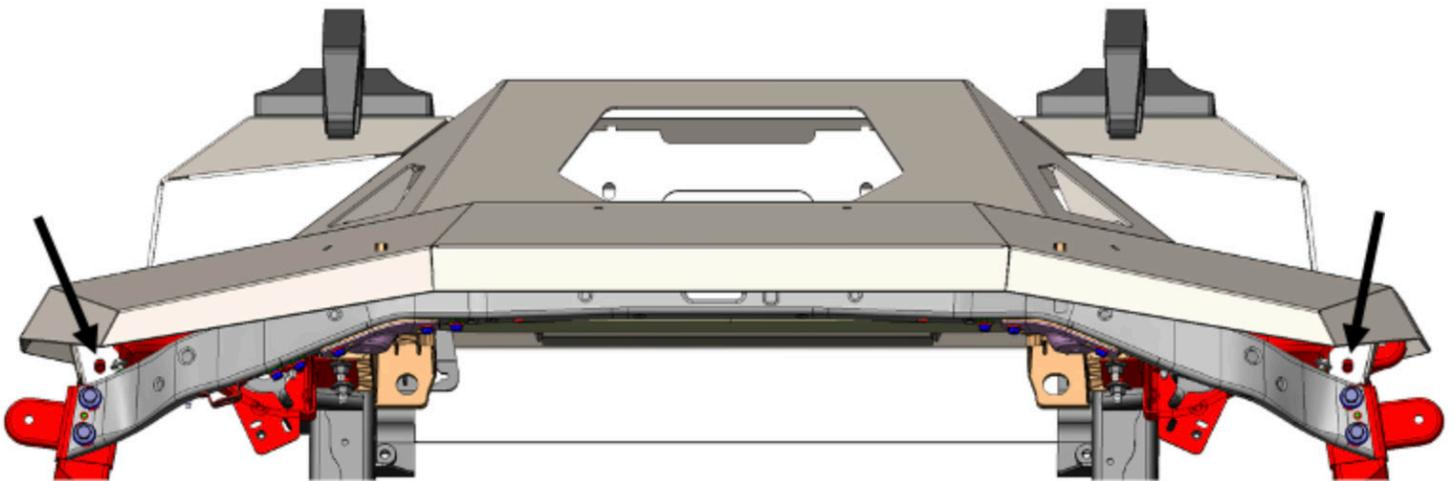

Figure 10
9. Use two (2) OEM 10mm bolts front the OE fenders to fasten the grille top mounts to the side frame. Figure 10